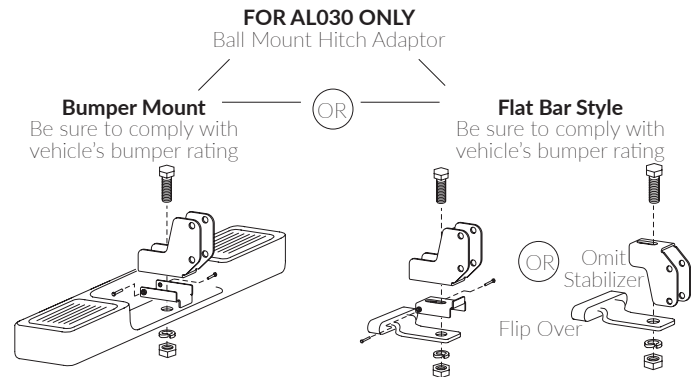

Figure 4-17
1. Install bumper mount of flat bar. *See Figure 4-17.*